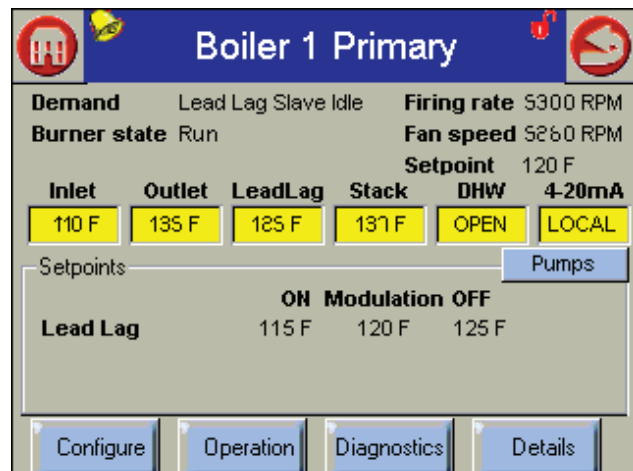

Fig. 34 - Status Summary Screen Showing Setpoints
4. Press the button for Setpoints to bring up a screen that lists the setpoints. See Fig. 34.